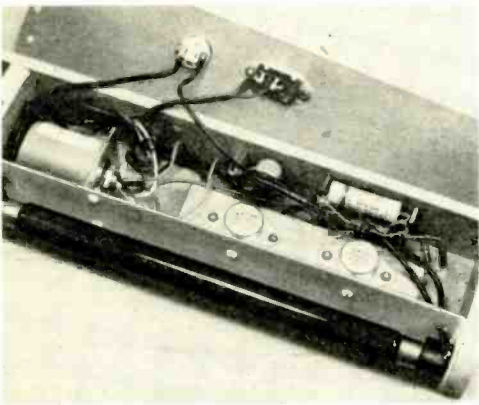

Fig. 3. Layout is not critical, but space transistors as far apart as possible to dissipate the heat.
Fig. 3. Transistors Q1 and Q2 "chop" the battery input to enable T1 to step up the voltage, which is then rectified and used to charge C2. The potential stored in C2 is then "dumped" into the ignition coil.
**How It Works.** When the ignition switch is turned on, the battery voltage is applied to the emitters of Q1 and Q2. (See Fig. 3.) Transistors Q1 and Q2 are forward-biased through the resistive divider (R1 and R2). Usually, whichever transistor has the most gain will conduct first. First one transistor conducts, and then the other, in a flip-flop manner. This form of oscillation repeats itself regularly and continuously; transformer action steps up the voltage to about 375 volts, which is then rectified by the full-wave bridge (D2, D3, D4 and D5).